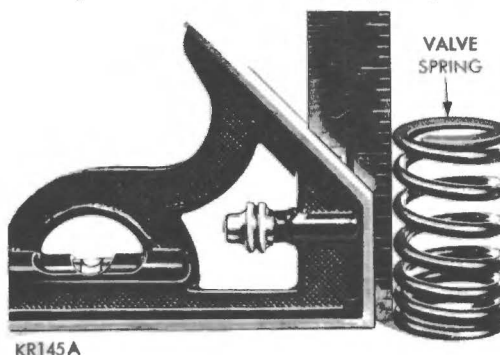

Fig. 8 Inspecting Valve Spring Squareness
(2) Inspect each valve spring for squareness at both ends with a steel square and surface plate, as shown in Figure 8.
(3) If the spring is more than  $1/16$  inch out of square, install a new spring.